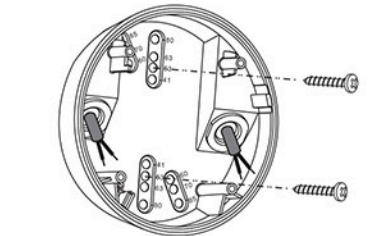

FIG. 11
- 3.3.3 Choose two proper knockouts to fix the junction box JB-46 on the surface of ceiling board with two wood screws (See FIG.11).